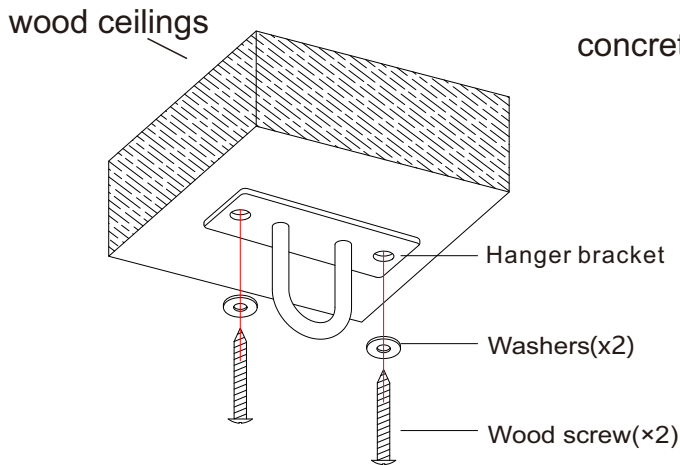

Figure 8a
a. For wood ceilings, mount the Hanger bracket using wood screws and matching washers. (Fig. 8a)